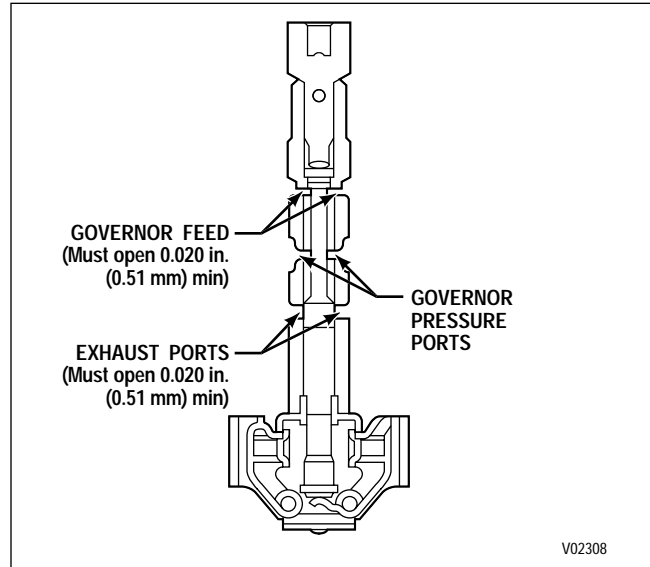

Figure 6-17. Governor Assembly — Showing Port Openings
(1) Assemble the governor as outlined in the directions furnished with the governor service kit.
(2) Check the governor port openings as outlined in the kit instructions. Refer to Figure 6-17.